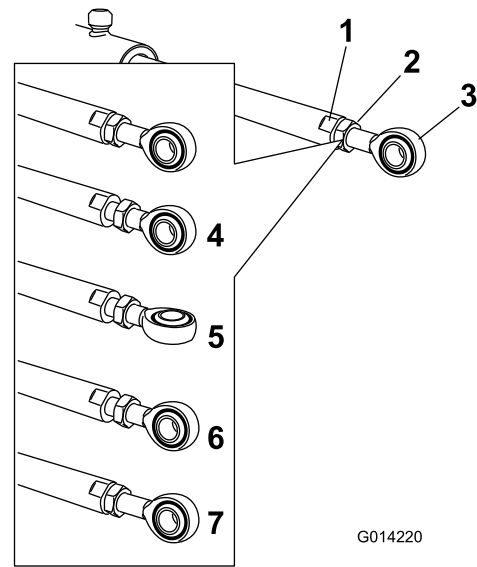

Figure 110
5. Hold the actuator rod at the flats of the rod using a wrench, then loosen the jam nut (Figure 110).
6. Turn the rod end in the actuator rod to shorten or lengthen the extended actuator to the desired position (Figure 110).